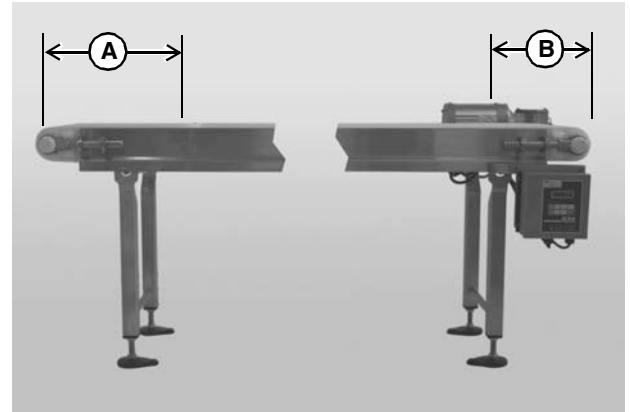

Figure 2
- “A” = 30" (762 mm) maximum (See Figure 2)
- “B” = 24" (510 mm) maximum (See Figure 2)